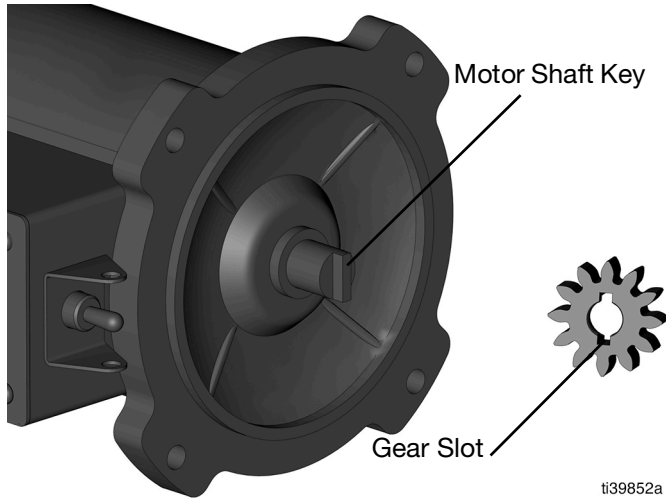
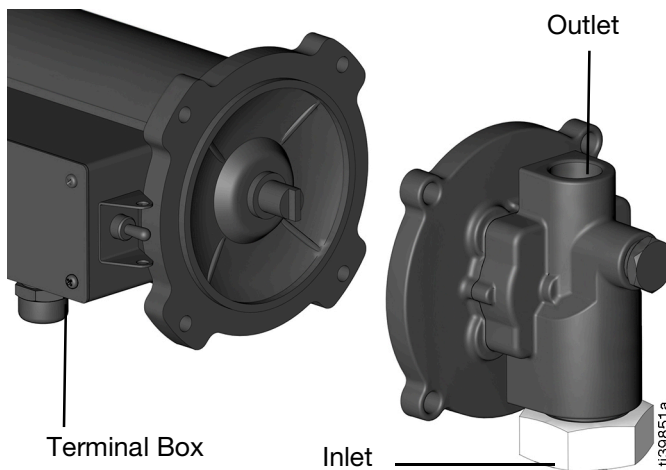

FIG. 24
FIG. 25
1. Put the pump housing assembly onto the motor. The motor shaft key should match the slot on the gear on the inside cover. The pump outlet should face up and the terminal box should be centered between the pump outlet and the pump inlet (FIG. 24 and FIG. 25).